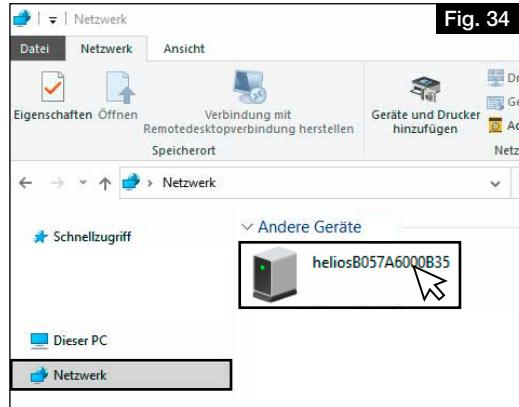

Fig. 34
2. Open desktop and click on Network, cf. Fig. 34.
3. Double-click on the corresponding unit, cf. Fig. 34.